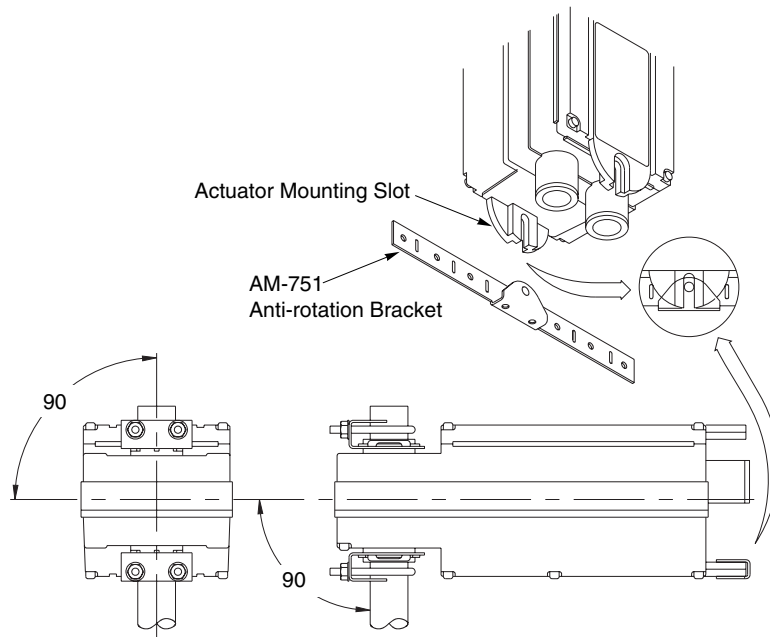

Figure-7 Mounting Anti-rotation Bracket to Actuator.
4. Align the actuator at 90° (perpendicular) to the damper shaft. See Figure-7.
5. Slide the anti-rotation bracket pin into the mounting slot on the actuator and drill mounting holes. See Figure-7. For narrow spaces, the AM-752 anti-rotation bracket is recommended (order separately).
7. Slide the anti-rotation bracket pin into the mounting slot on the actuator. See Figure-7. For narrow spaces, the AM-752 anti-rotation bracket is recommended (order separately).